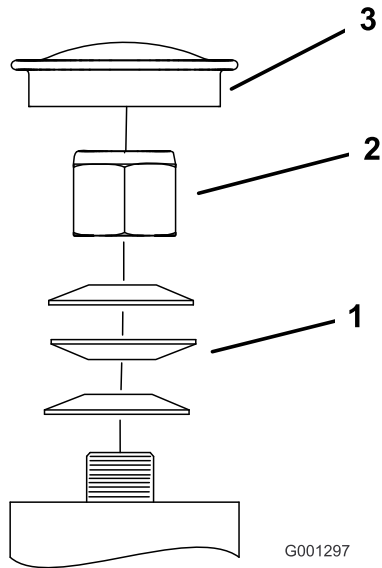

Figure 66
3. Remove the dust cap from caster and tighten locknut (Figure 66).
- Tighten the locknut until the spring washers are flat and then back off a 1/4 turn to properly set the pre-load on the bearings (Figure 66).
**Important:** Make sure the spring washers are installed correctly as shown in Figure 66.
- Install the dust cap (Figure 66).